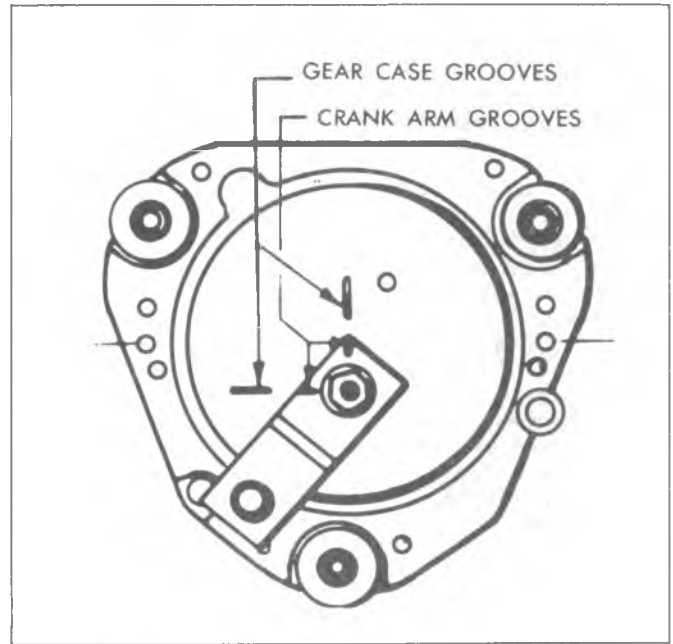

Fig. 20—Wiper Motor Crank Arm in Park Position
2. Place wiper in park position and install crank arm on output shaft, rotate crank so alignment marks line up with those on cover (fig. 20).